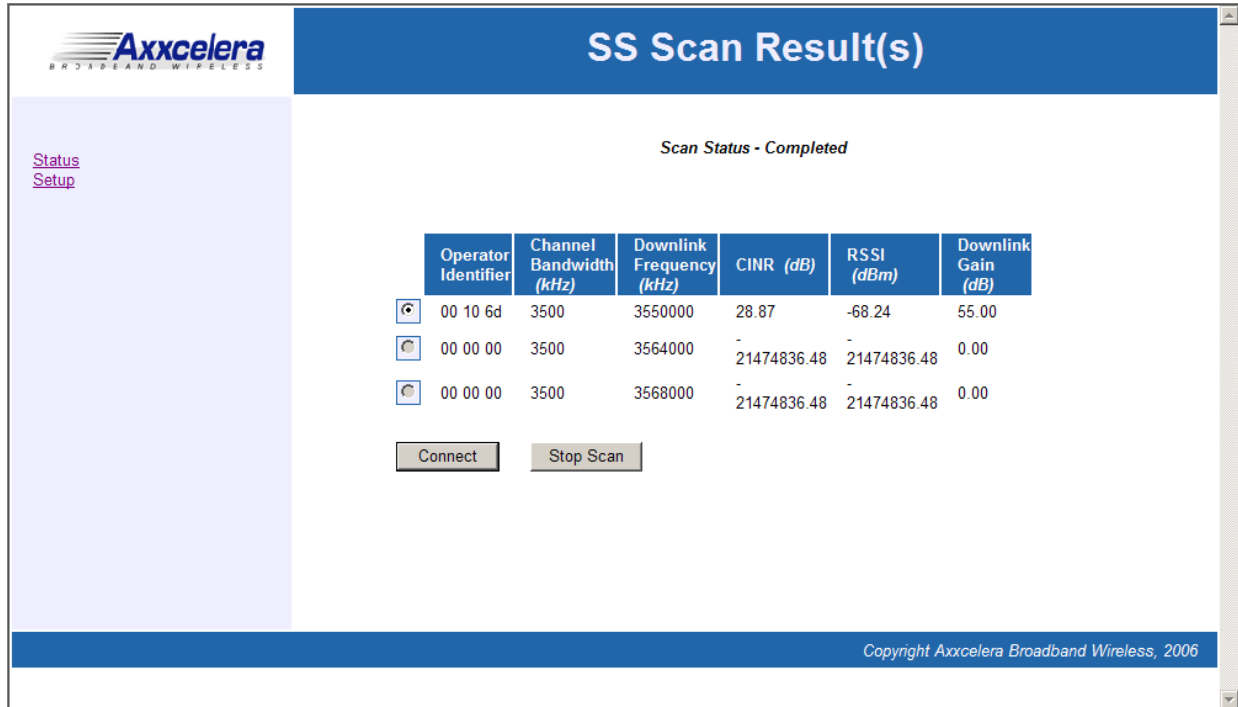

Figure 9-3 Scan Results screen
- 9) When the scanning is complete, the **Scan Result(s)** screen appears (Figure 9-3). It displays the channels that you selected. If a signal is found, the radio button will be available for selection. If no signal was found for a channel, its radio button will be grayed out.